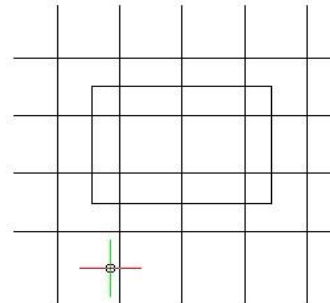

Fig13
4. Here we select the internal point of the rectangle, you will see that the internal lines of the rectangle are trimmed. (Fig 13)